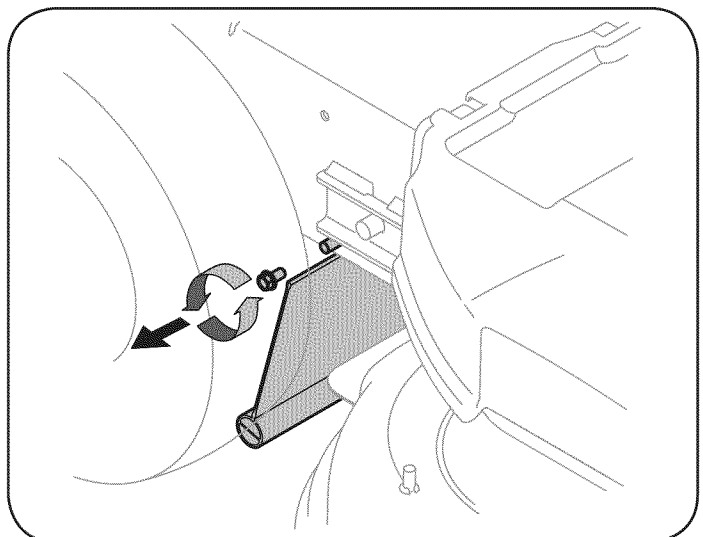

Figure 32
1. Remove the screw which secures the trail shield to the right side of the mower. See Figure 32.